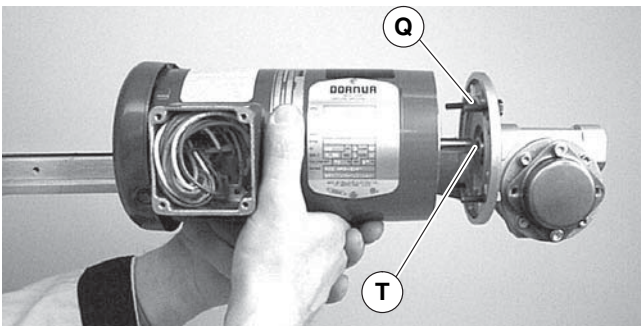

Figure 25
5. With key (Figure 25, item T) in keyway, slide motor and gear reducer together. Install screws (Q) and tighten.